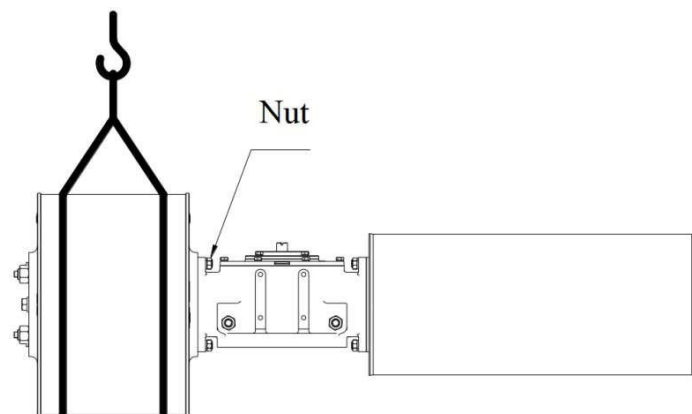

Figure 11
5) Perform the necessary lifting measures for the cylinder module, refer to Figure 11.
1) Lift the cylinder module (including the O-ring between the modules) to the mounting surface of the drive module (as shown in Figure 11), and tighten the nut;